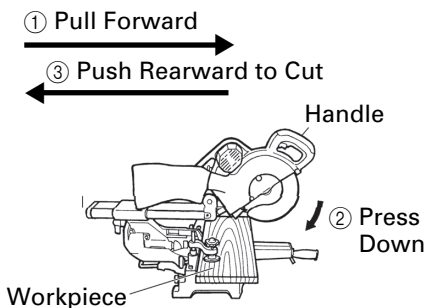

Fig. 29
Then press down on the handle and slide the saw blade back to cut the workpiece as indicated in Fig. 29. This facilitates cutting of workpieces of up to 88mm (3-15/32") in height and 312mm (12-9/32") in width.
**WARNING:** \* For slide cutting, follow the procedures indicated above in Fig. 29. Forward slide cutting (toward the operator) is very dangerous because the saw blade could kick upward from the workpiece. Therefore, always slide the handle away from the operator.